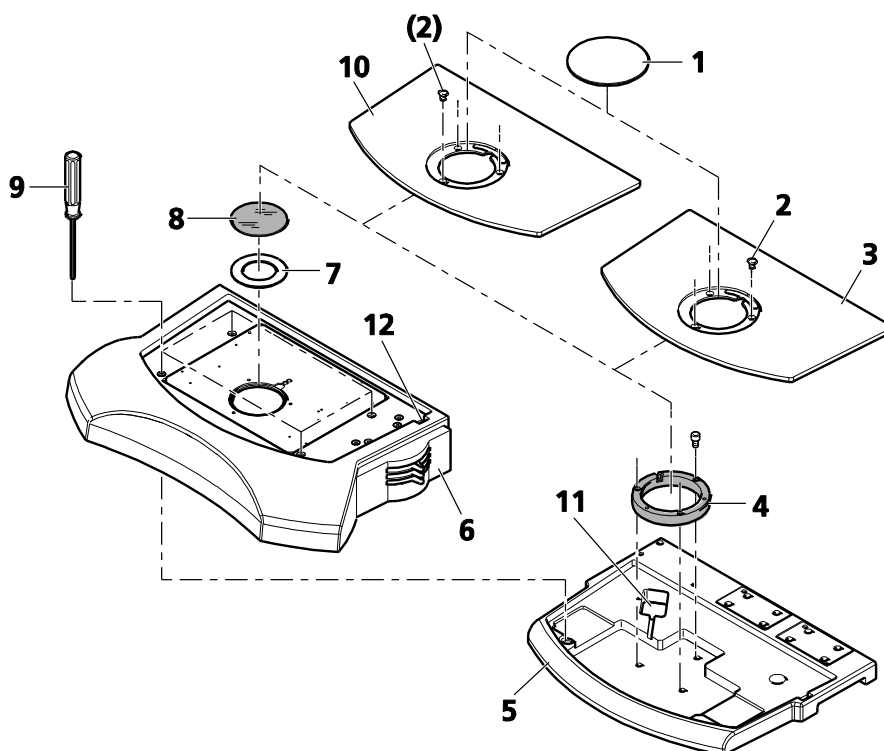

Fig. 7 Installing the transmitted-light equipment S
- If the adapter ring (Fig. 7/4) is not mounted (e.g. after the removal of the transmitted-light equipment S), use three Allen screws (SW 3) to fasten it to the stand base (Fig. 7/5); then, put the insert plate (Fig. 7/3) onto the base.
- Fasten the insert plate (Fig. 7/3) without stage adapter to the adapter ring (Fig. 7/4) by means of three short Allen screws (Fig. 7/2).
- Remove the insert plate (Fig. 7/3). To this end, loosen the three short Allen screws (Fig. 7/2), lift up the insert plate (using the grip hollow at the right edge of the stand base (Fig. 7/5)) and, taking hold of it with both hands, remove it safely.
- Loosen the three Allen screws (SW 3) of the adapter ring (Fig. 7/4) with the ball-headed screwdriver and remove the adapter ring.
- Put the transmitted-light equipment S (Fig. 7/6) laterally correct onto the stand base. Verify that the two large plastic taper pins on the bottom of the transmitted-light equipment S engage with the respective holes of the stand base.
- Use the ball-headed screwdriver (Fig. 7/9) to screw down the four countersunk Allen screws (SW 3) hand-tight on the transmitted-light equipment S.
- Put the insert plate (Fig. 7/3) onto the transmitted-light equipment S (Fig. 7/6).
- Insert the opal glass plate \varnothing 84 mm (Fig. 7/8) to avoid that screws and other small parts get lost during the further installation work.
- Using the three, short Allen screws (Fig. 7/2) fasten the insert plate (Fig. 7/3) (without stage adapter) to the transmitted-light equipment S.
- Replace the opal glass plate \varnothing 84 mm (Fig. 7/8) by insert 52/84 (Fig. 7/7).
- Insert the 120 mm glass plate (Fig. 7/1); to remove it again, press on its rear edge.